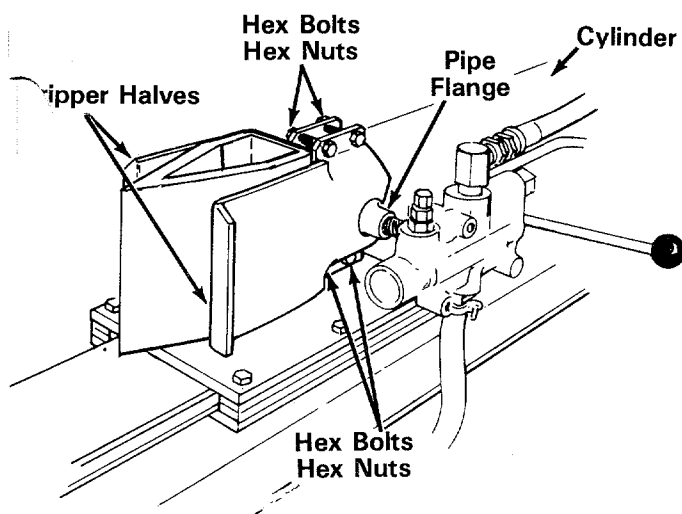

FIGURE 12
2. Slip one stripper half over the pipe flange on the cylinder. Place the other stripper half on the other side of the cylinder. See figure 12.